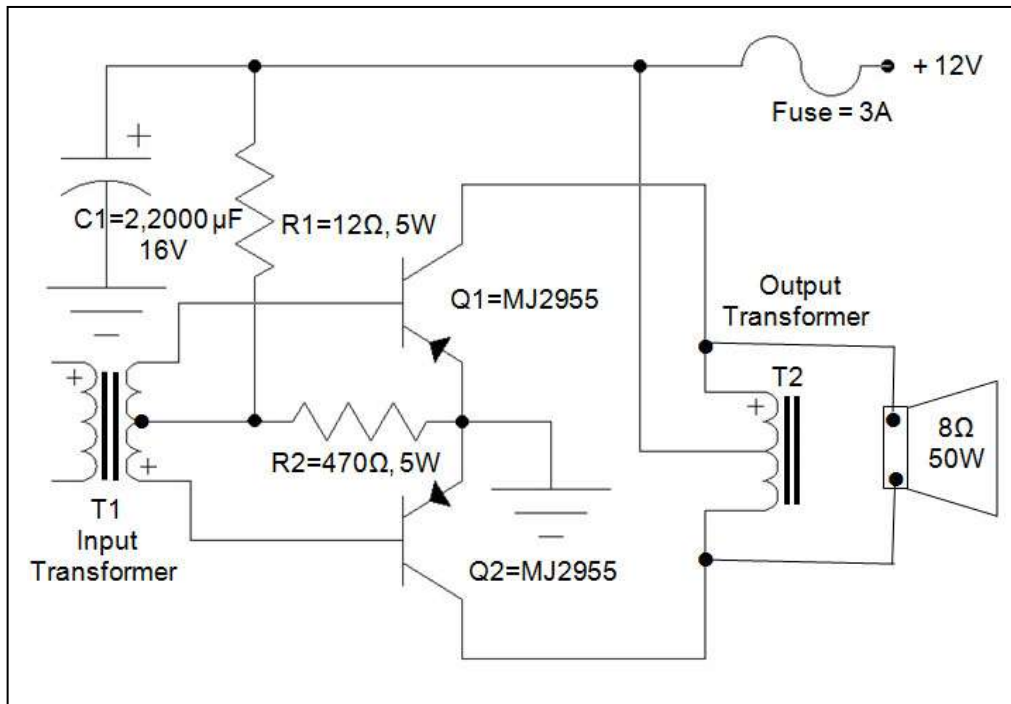

Fig. 3-7A. Schematic diagram of a 50-watt booster amplifier.
**III. DIRECTIONS:** Shown in Fig. 3-7A is a schematic diagram of a 50-watt booster amplifier and in Fig. 3-7B is its pictorial diagram. Redraw the pictorial diagram and write in Table 3-3 the name of components/devices indicated by arrows and give their functions.